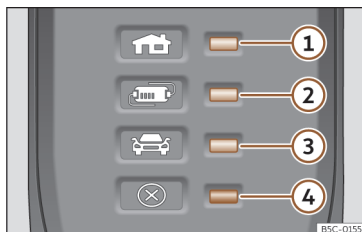

Fig. 80 On the charging cable for power sockets: Indicator lamps on the protection device.
>>> **Fig. 80:**
The electronic protection device >>> **Fig. 80** ensures that the charging connector does not receive current until it is plugged in to the vehicle's charging connector.
One or more control lamps >>> **Fig. 80** 1, 2 or 3 light up green.
Display >>> Fig. 80	Meaning
①, ④ flashing	The housing connector has overheated.
②, ④ flashing	The protection device has overheated.
If the charging process continues with a lower current, both the operating indicator and the warning lamp >>> Fig. 80 ④ flash red.
- If it disconnects again, or the charging current reduces and the cause does not seem to be exposure to an external heat source, make sure that the green control lamp is flashing >>> Fig. 80. Visit a specialised CUPRA dealer or any SEAT network dealer to check the charging cable. Get an establishment that specialises in electrical installations to check the infrastructure connection.
If the red warning light ④ flashes or turns on without one of the indicator lamps >>> Fig. 80 ①, ② or ③ also turning on continuously on the status indicator, there is a fault.